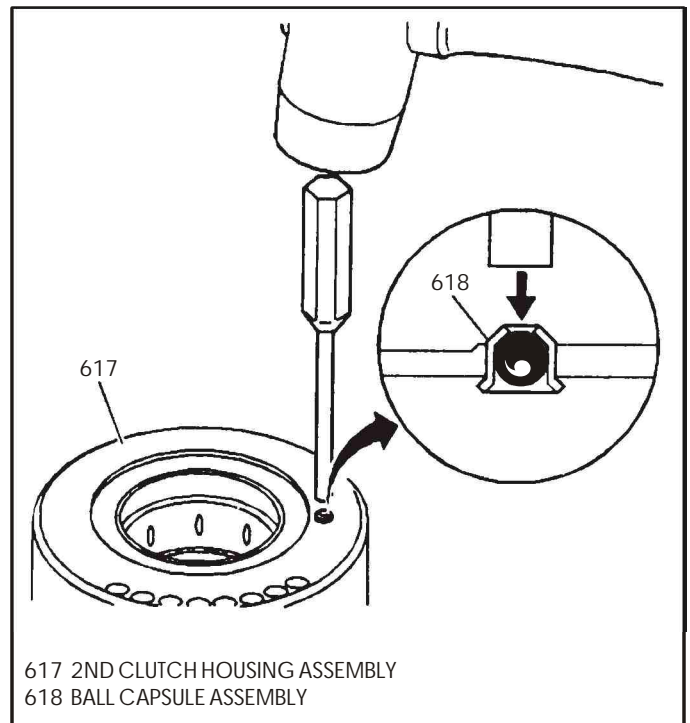

Figure 119
6. If replacement of the 2nd clutch housing ball capsule is necessary, remove it and replace it using a drift punch, as shown in Figures 119 and 120.